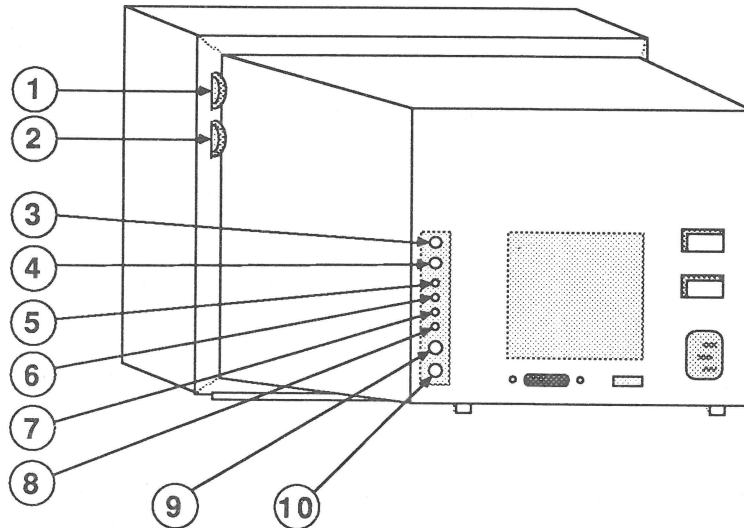

FIGURE 1
The BRIGHTNESS control (Figure 1, #1) and the CONTRAST control (Figure 1, #2) are located on the side of the monitor's case and are accessible to the user.
- CUTOFF (Figure 1, #3; this adjustment is not accessible externally on newer units)
- FOCUS (Figure 1, #4)
- HORIZONTAL SIZE or WIDTH (Figure 1, #5)
- HORIZONTAL SHIFT or CENTER (Figure 1, #6)
- VERTICAL SIZE or HEIGHT (Figure 1, #7)
- VERTICAL SHIFT or CENTER (Figure 1, #8)
- VERTICAL STATIC CONVERGENCE (Figure 1, #9)
- HORIZONTAL STATIC CONVERGENCE (Figure 1, #10)
The HORIZONTAL SHIFT (Figure 1, #6) and VERTICAL SHIFT (Figure 1, #8) controls are preset at the factory and normally do not need readjusting.